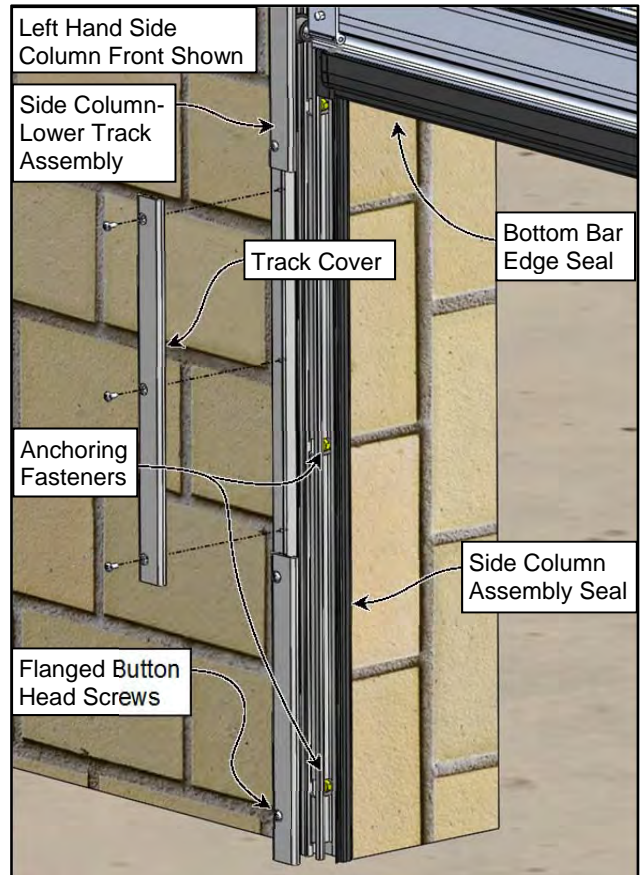

Figure 22
3. Gain access to the door's mounting anchors by removing the Track Covers. To remove the Track Covers, see "Door Panel Inspection" section, step 6 on page 11. (See Figure 22)
9. Move the door to the fully closed position by pressing the door close (V) button located on the 3-button control station.